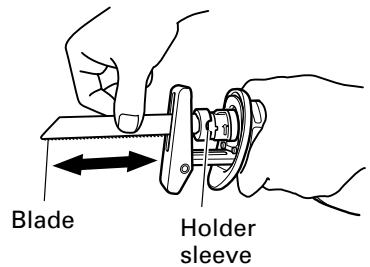

Fig. 11
- (5) Pull the back of the saw blade two or three times by hand and check that the blade is securely mounted. When pulling the blade, you will know it is properly mounted if it clicks and the holder sleeve moves slightly. (Fig. 11)